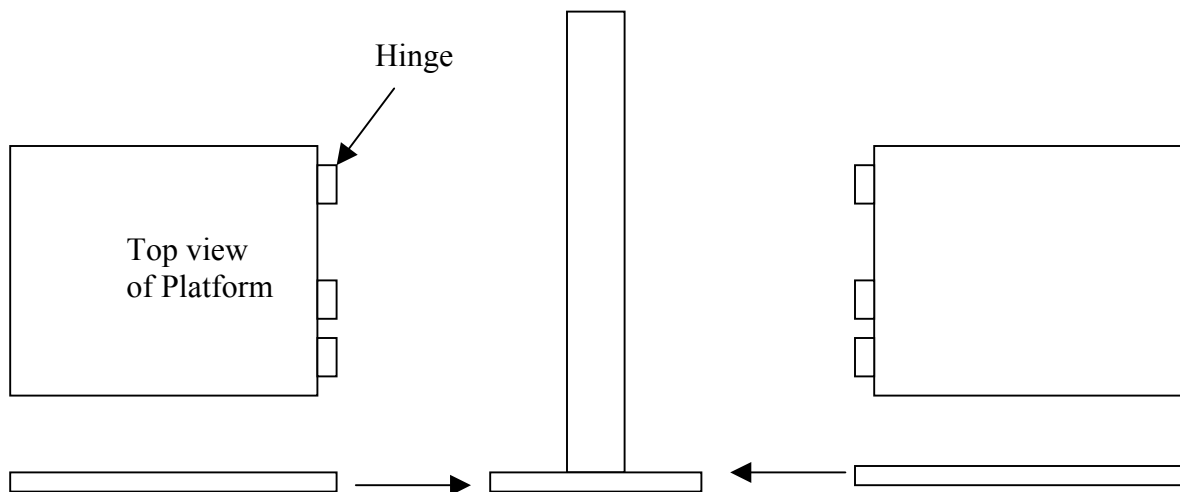

Figure 2. Side view with platforms
3. Attach the 5'6" x 4' platforms to the foot of the doorframe using the hinge pins as shown in figure 2 below. The hinges on the foot of the doorframe and platforms will line up.